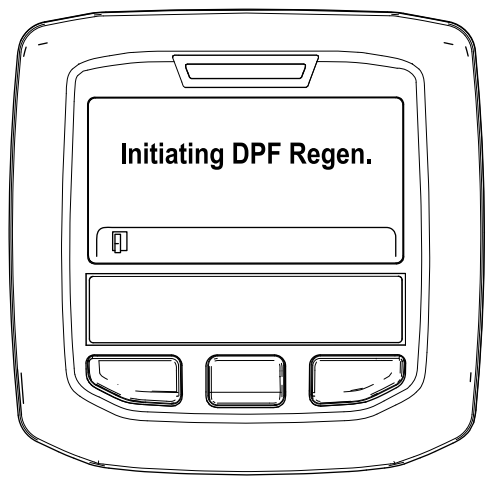

Figure 34
- A. The "Initiating DPF Regen." message displays (Figure 34).